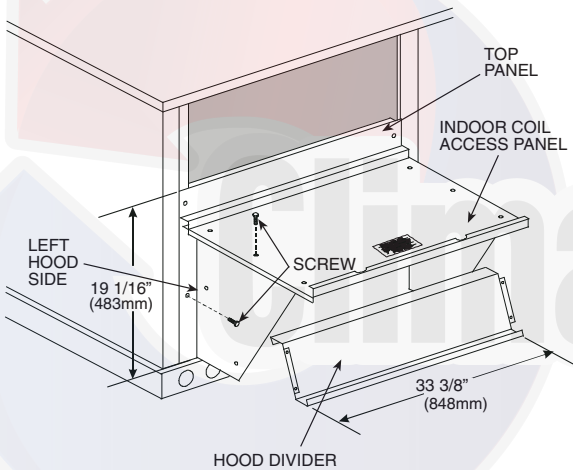
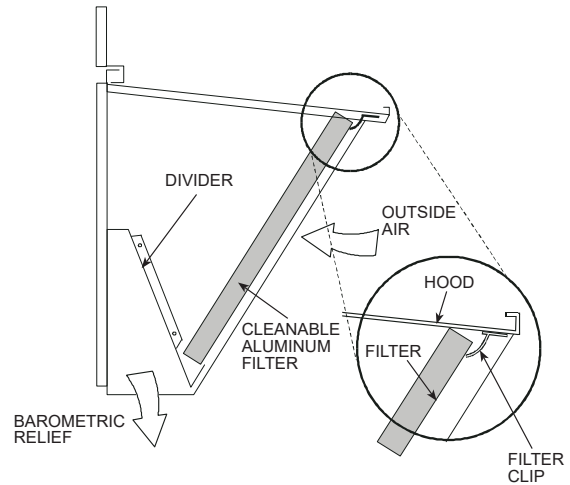

Fig. 16 — Economizer Hood Construction
Fig. 17 — Economizer Filter Installation
- Swing out indoor coil access panel and insert the hood sides under the panel (hood top). Use the screws provided to attach the hood sides to the hood top. Use screws provided to attach the hood sides to the unit. See Fig. 16.
- Insert the hood divider between the hood sides. See Fig. 16 and Fig. 17. Secure hood divider with 2 screws on each hood side. The hood divider is also used as the bottom filter rack for the aluminum filter.
- Open the filter clips which are located underneath the hood top. Insert the aluminum filter into the bottom filter rack (hood divider). Push the filter into position past the open filter clips. Close the filter clips to lock the filter into place. See Fig. 17.